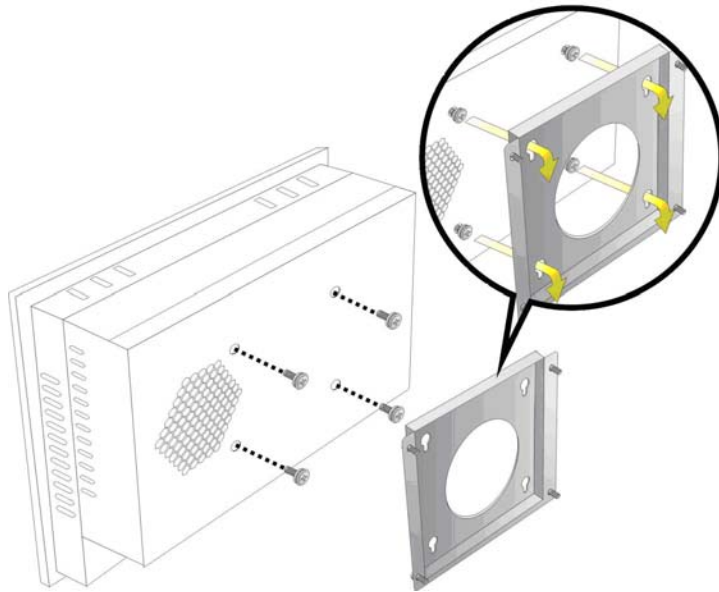

Figure 3-9: Mount the Chassis
- Step 6:** Insert the four monitor mounting screws provided in the wall mounting kit into the four screw holes on the rear panel of the monitor and tighten until the screw shank is secured against the rear panel (**Figure 3-9**).
- Step 7:** Carefully insert the screws through the holes and gently pull the monitor downwards until the monitor rests securely in the slotted holes (**Figure 3-9**). Ensure that all four of the mounting screws fit snugly into their respective slotted holes.